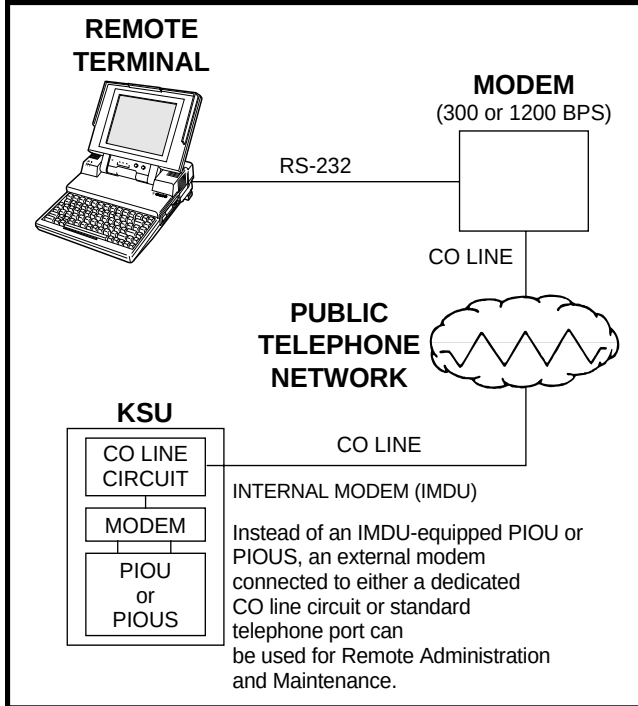

FIGURE 1
2.01 Remote Administration and Maintenance is accomplished with a remote terminal/modem communicating over the public telephone network via either an external modem (connected to a dedicated CO line or a standard telephone port) or a modem unit (IMDU) installed on a PIOU or PIOUS PCB. See Figure 1.
6.01 Terminal: The terminal must interface with an asynchronous modem, communicate in ASCII code at 300 or 1200 bps, have a standard type-writer-type keyboard, and display data via a CRT display or printer. A personal computer capable of emulating the described terminal may also be used (see Figure 1 and Paragraph 15).
6.11 Refer to Figure 1 and verify that the remote terminal is connected and set-up as follows: